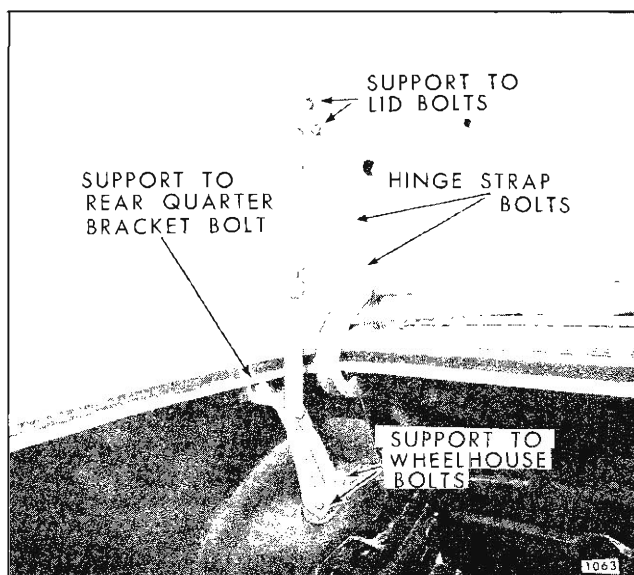

Fig. 5F7—Engine Compartment Lid Support
3. With the aid of a helper holding lid in open position, remove lid support attaching bolts from lid. (See Fig. 5F7).
4. With lid properly supported, remove hinge strap attaching bolts and remove engine compartment lid from body. (See Fig. 5F7).